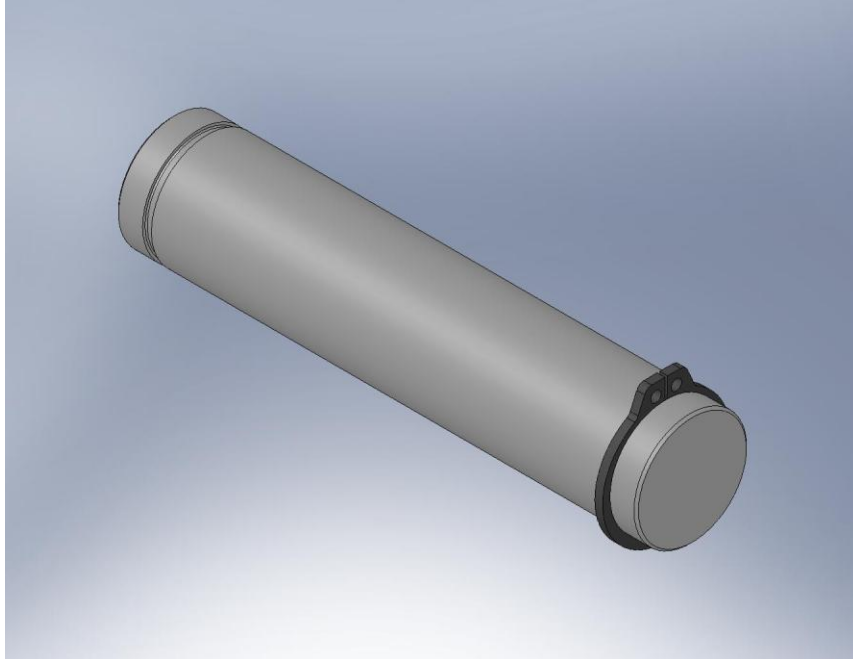

Figure 3.63. Place one retaining ring on each pivot pin now. After inserting through the rod ends, the other end of each pin will get a ring.
- Snap a 1/2" retaining ring (McMaster-Carr #91590A122) on one end of each of (2) 1/2" pivot pins (Misumi #U-SCDG0.50-L2.00), as shown in Figure 3.63.